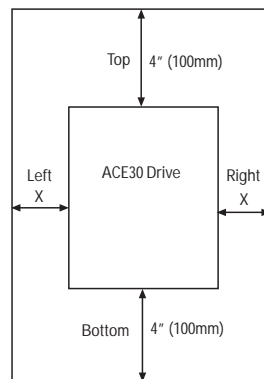

Fig. 2-2-1 30HP or less: Gap X can be 0. (side-by-side installation) 40HP or more: Gap X >= 2.0" (50mm)
1. Securely fasten the drive in an upright position on a solid structure with the ACE30 tag facing the front. Do not turn the drive upside down or install it in a horizontal position. Fig. 2-2-1
2. Since heat is generated during drive operation, the spaces shown in Fig. 2-2-1 are required to ensure sufficient cooling. Do not install the drive beneath a device sensitive to heat as heat radiates upward.